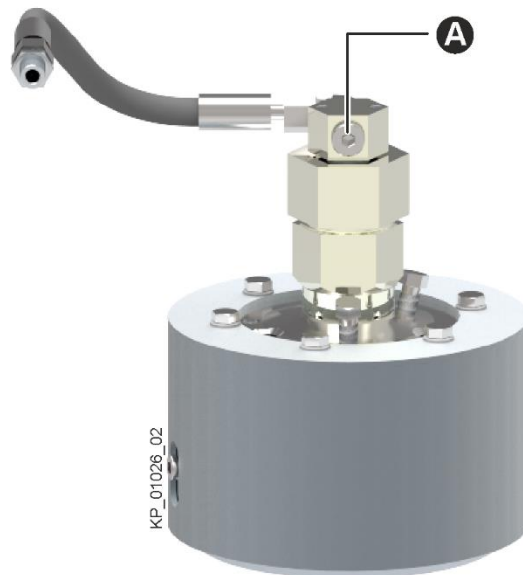

Fig. 27: Hydraulic nut with revolute joint
At the hydraulic nut (Fig. 27/B):
- Open the screw plug at the revolute joint (Fig. 27/A) until the oil-air mixture begins to escape.
- Tighten the screw plug (Fig. 27/A) firmly.